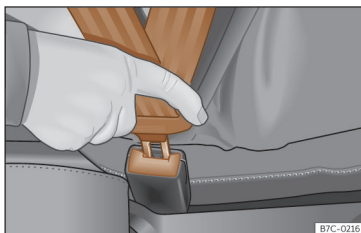

Fig. 21 Insert the latch plate of the seat belt into the buckle.
- Pull the latch plate and place the belt webbing evenly across your chest and lap. **Do not** twist the seat belt when doing so >>> **Fig. 21.**
- Insert the buckle plate in the buckle of the correct seat >>> **Fig. 21.**